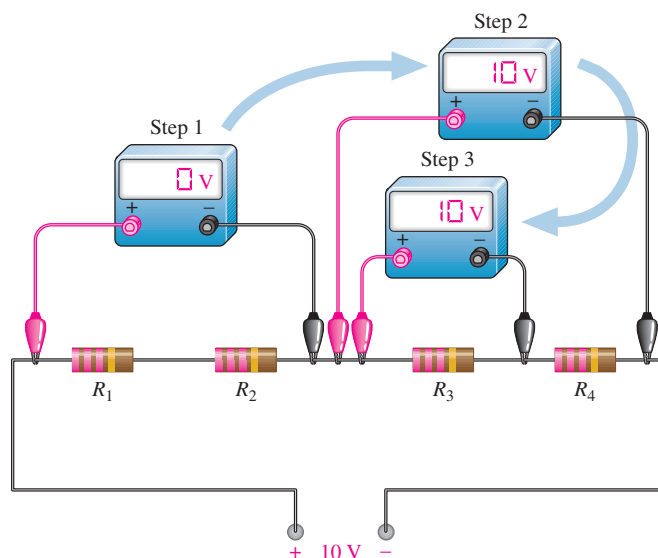

FIGURE 57
**Example of Half-Splitting Using Voltage Measurements** Suppose a circuit has four resistors in series. You have determined by *analyzing* the symptoms (there is voltage but no current) that one of the resistors is open, and you are *planning* to find the open resistor using a voltmeter for *measuring* by the half-splitting method. A sequence of measurements for this particular case is illustrated in Figure 57.